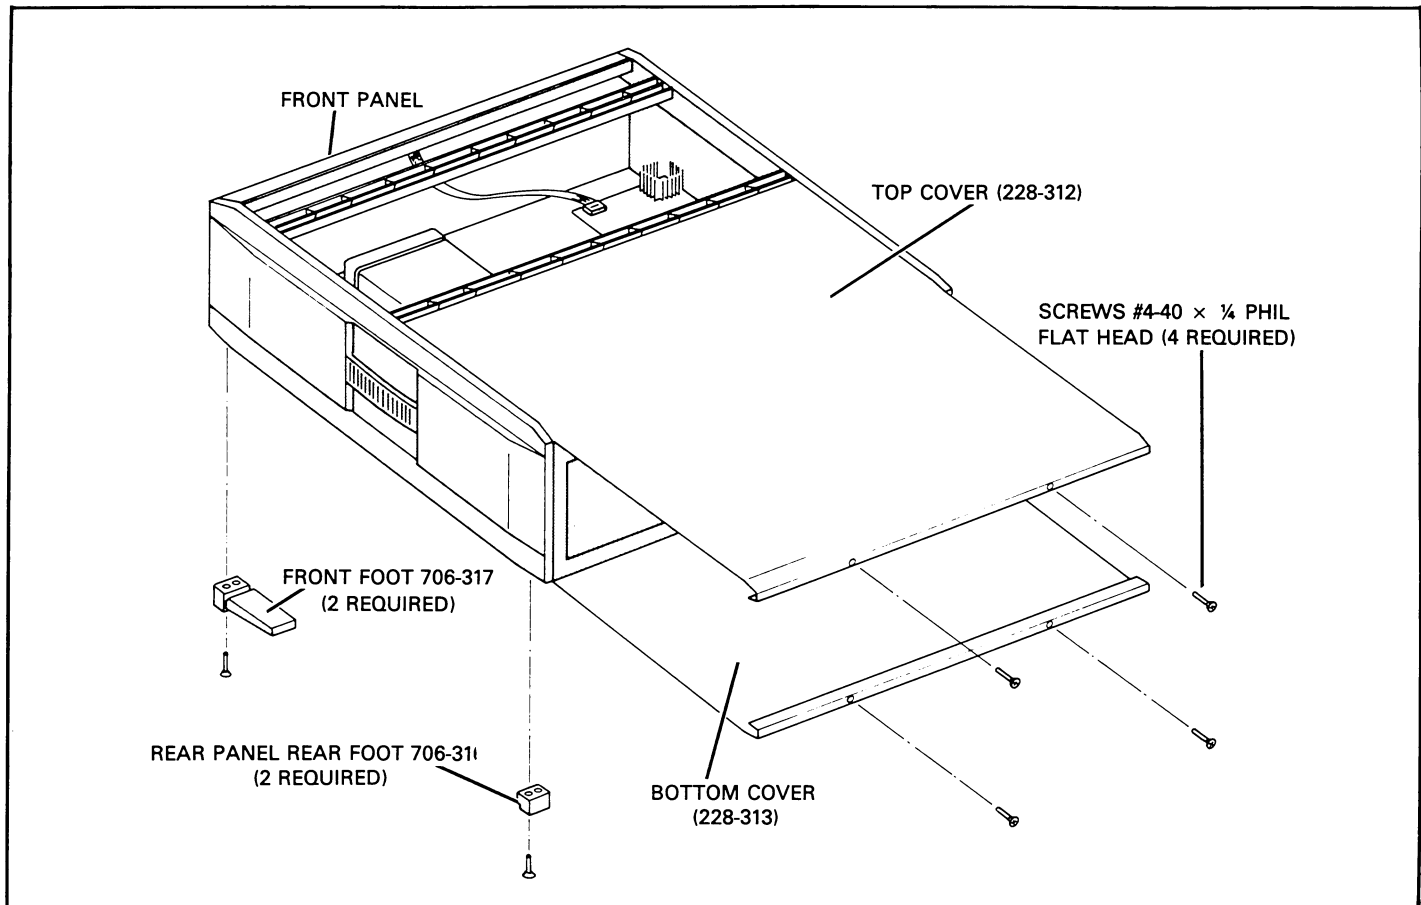

Figure 7-1. Top and Bottom Cover Removal
1. Remove the top cover. Refer to the disassembly instructions in paragraph 7.4. Refer to Figure 7-1.
If it becomes necessary to disassemble the Model 228, use the following procedure. Also, refer to Figures 7-1 through 7-5. The following procedures allow only the parts that require disassembly to be disassembled. For example, if the digital board is to be removed, then refer to the procedure on removing the digital board. There are four basic methods to disassemble the Model 228. The methods consist of the following:
- B. Grasping the top cover at the rear of the instrument, carefully pull it out and away from the instrument. Refer to Figure 7-1.